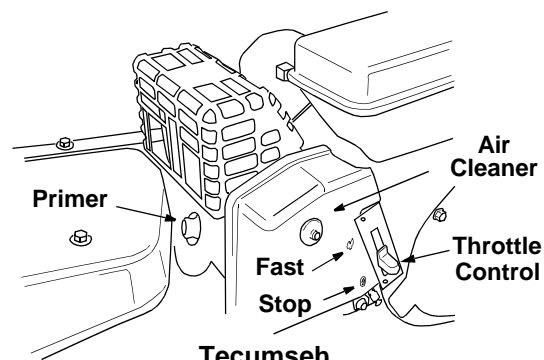

Figure 8
The throttle control lever is located on the engine. It controls the engine speed and stops the engine. See Figure 8.
The choke lever is located above the throttle control. It is used to enrich the fuel mixture when starting a cold engine. See Figure 8.
The primer button is located behind the air cleaner. It is used to enrich the fuel mixture in the carburetor when starting a cold engine. See Figure 8
- Place the throttle control lever in FAST position. See Figure 8.